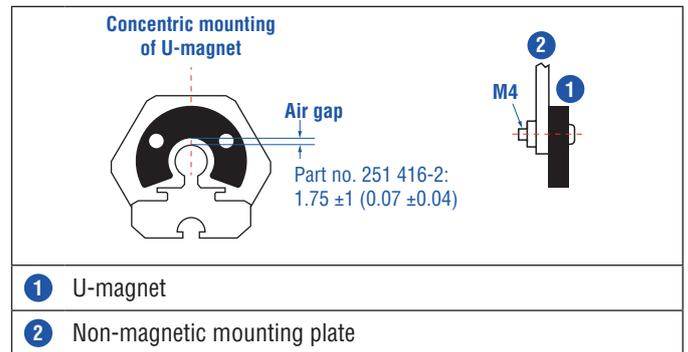
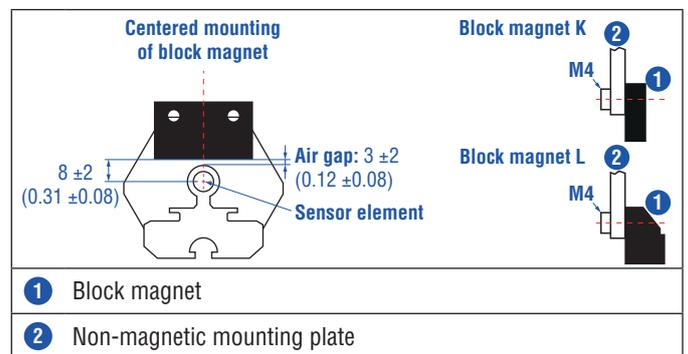

Fig. 13: Mounting of U-magnet (part no. 251 416-2)
Fig. 14: Mounting of block magnet (part no. 403 448)
- The maximum permissible air gap must not be exceeded (Fig. 13/ Fig. 14).